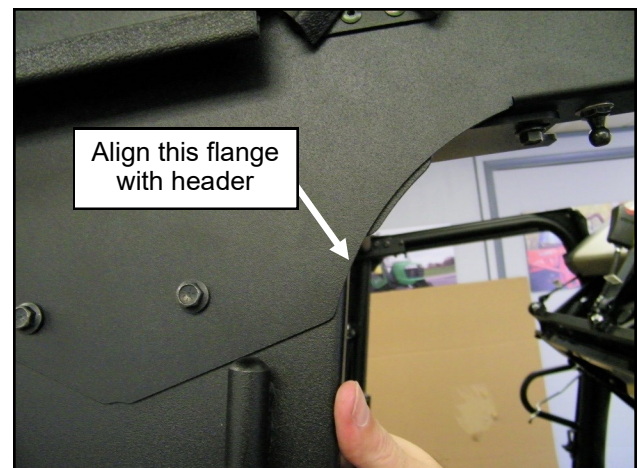

Fig. 13.3 B-panel alignment
**13.3** Align the B-pillar upper rear flange flush to the side header per figure 13.3 and tighten the (5) bolts for each B-pillar to the side header.